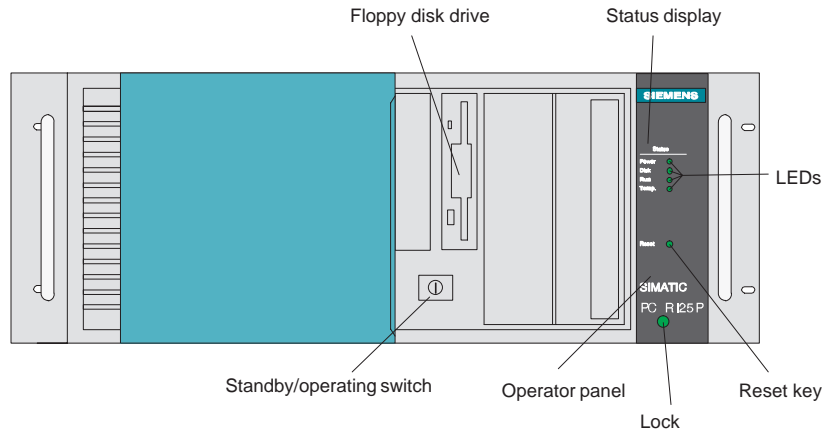

Figure 3-1 Operator Elements on the Front Side of the SIMATIC PC
**Front Side** Before you switch on your SIMATIC PC, you should become familiar with its operator elements. Figure 3-1 illustrates the operator elements on the front side of your PC.